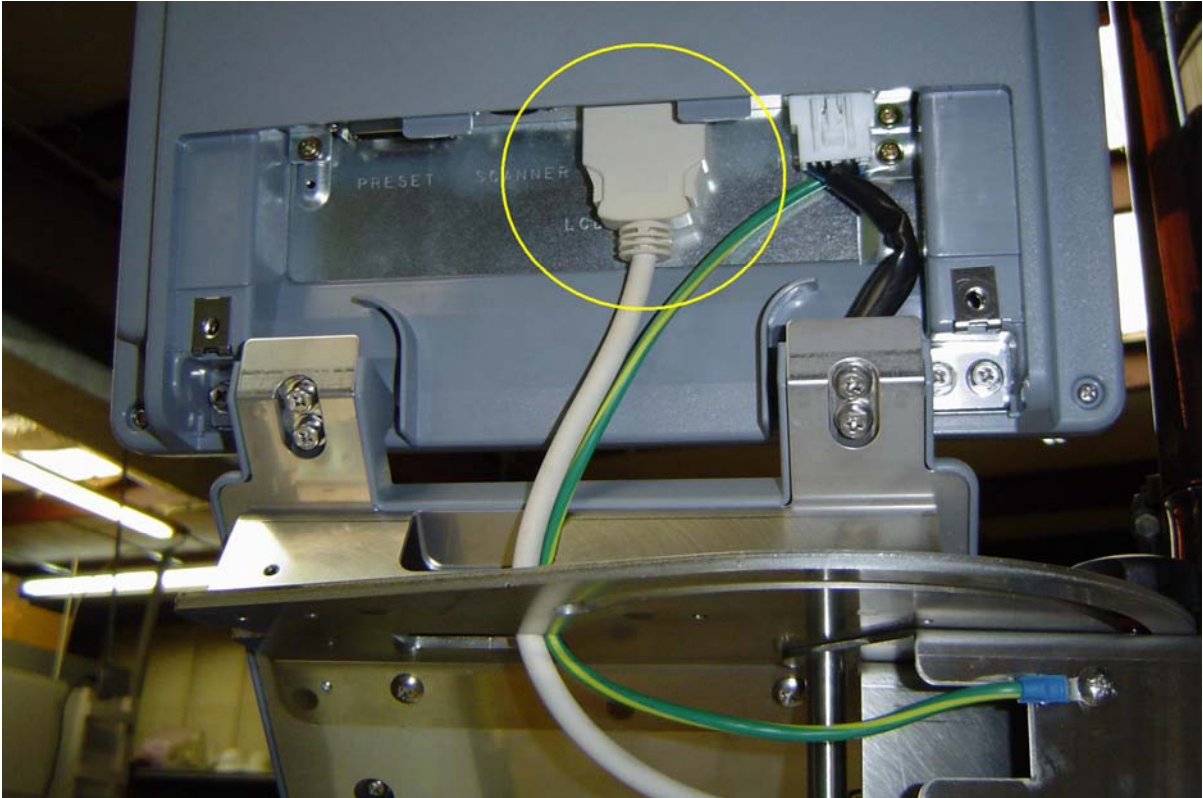

Figure 10. Touchscreen cable connection.
- b. Disconnect data cable. **[See Figure 10]**